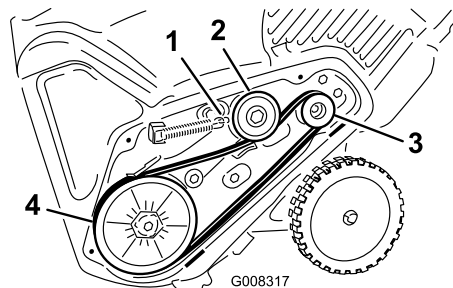

Figure 29
5. Install the new drive belt, routing it as shown in Figure 29.
8. Install the brake spring onto the idler arm (Figure 29).